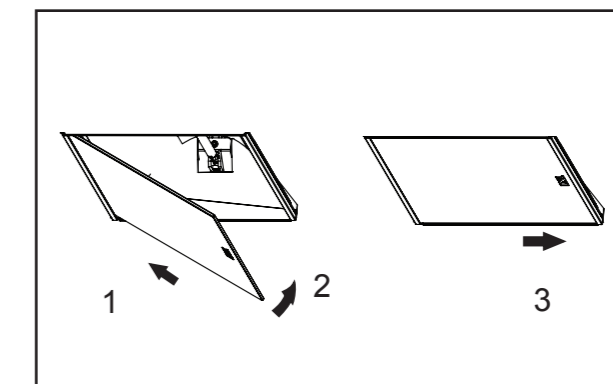

Fig 16.
6. Fit the glass sheets to the heat lamp reflector bodies (Fig. 16).